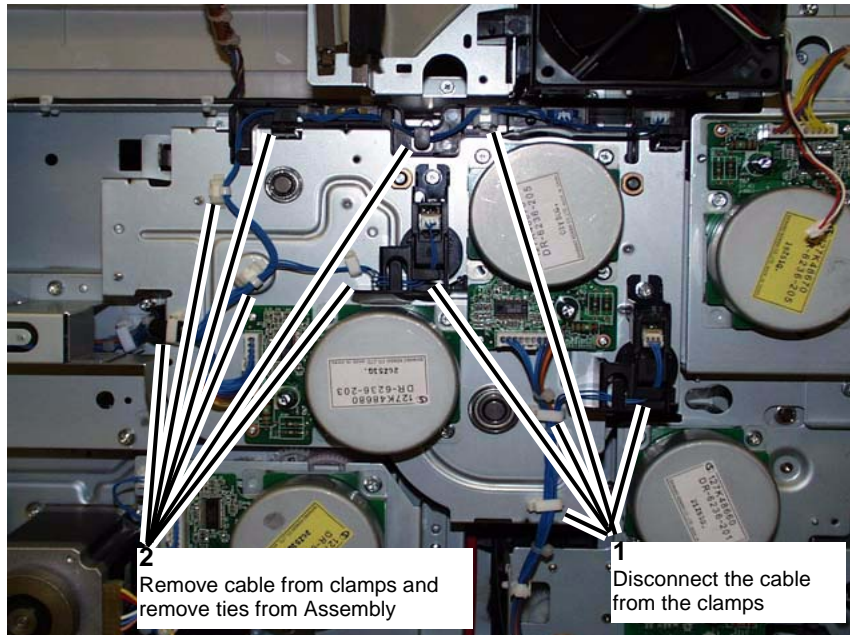

Figure 3 Disconnecting cable clamps or removing cable ties
7. Disconnect the cable from the cable clamps or remove the cable ties from the Drum Drive Assembly. (Figure 3)